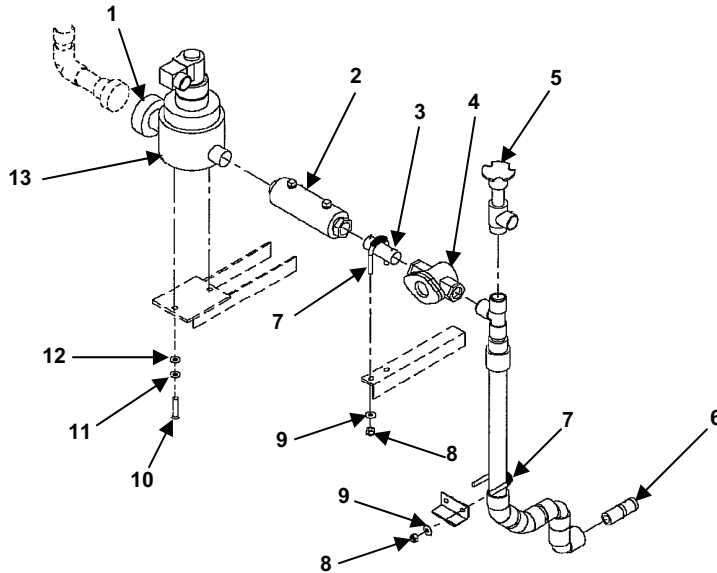

Figure 3. UF Tank Inlet Piping.
1. Remove nuts (Figure 3, Item 8) and washers (Figure 3, Item 9) from U-bolts (Figure 3, Item 7). Remove U-bolts.
2. Remove the coil from the solenoid valve (Figure 3, Item 13). See (WP 0094).
3. Loosen union (Figure 3, Item 1) and remove screws (Figure 3, Item 10), lockwashers (Figure 3, Item 11) and washers (Figure 3, Item 12) from solenoid valve (Figure 3, Item 13).
4. Disconnect the hose from the fitting (Figure 3, Item 6).
5. Remove flow controller (Figure 3, Item 2), nipple (Figure 3, Item 3), flow indicator (Figure 3, Item 4), filtrate valve (Figure 3, Item 5) and fitting (Figure 3, Item 6) from piping only if necessary.